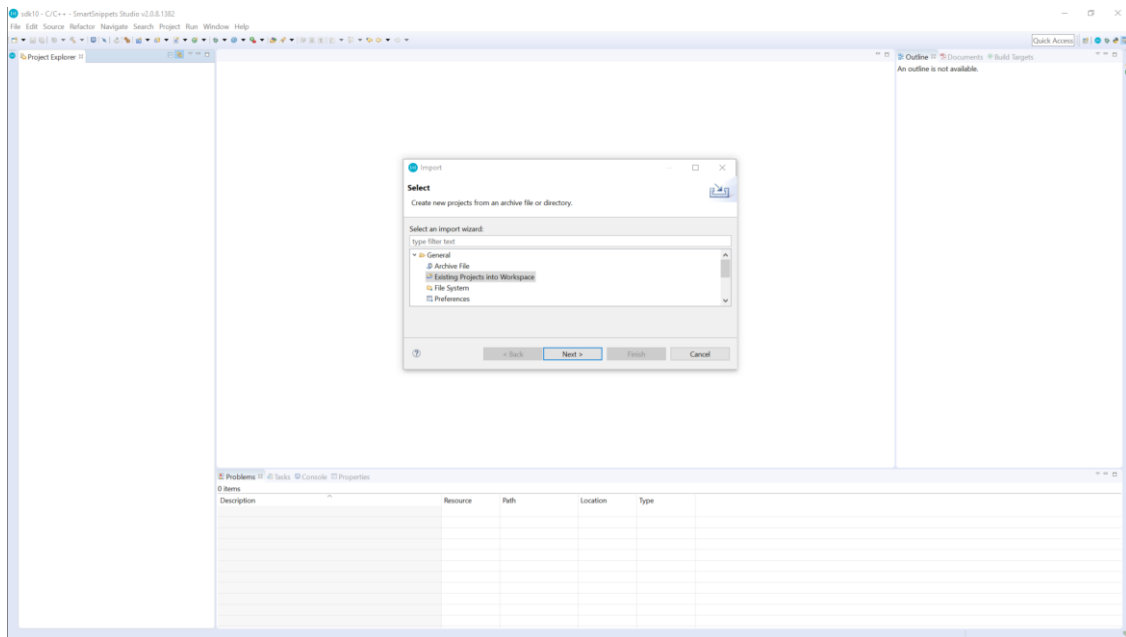

Figure 3: Import a Project into the Workspace
- b. Select **General > Existing Projects into Workspace** >click **Next** (Figure 3) > **Select root directory** (Figure 4).